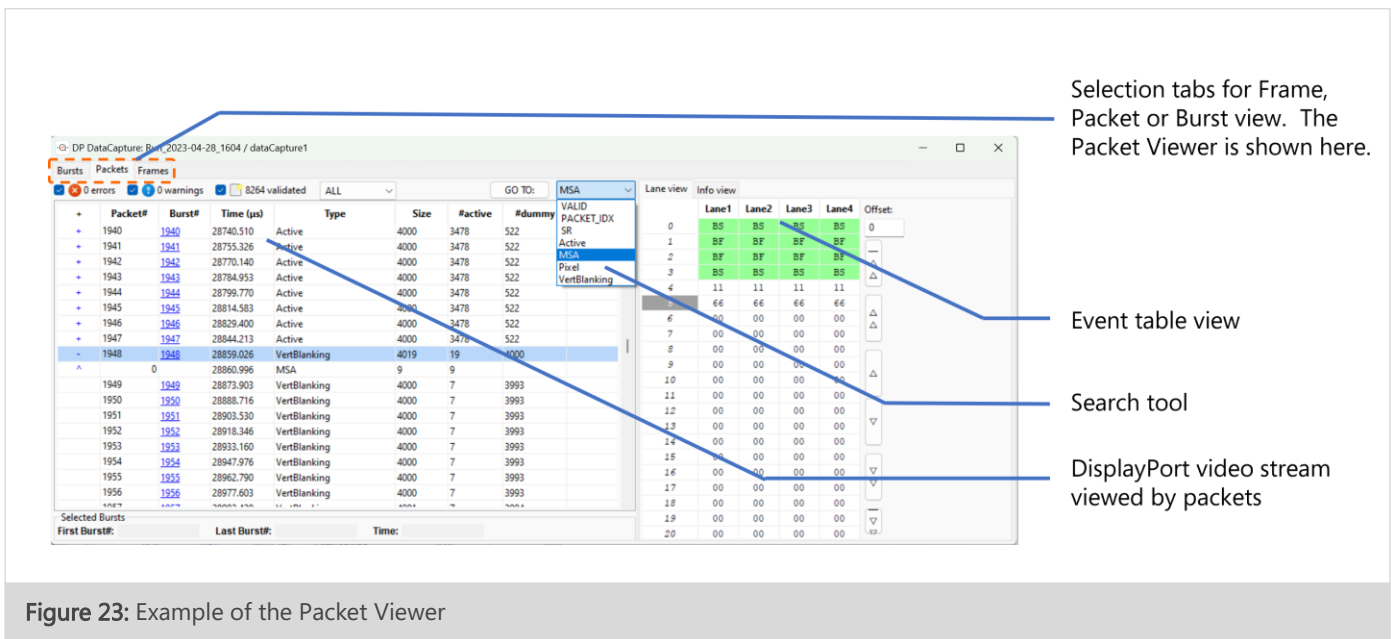

Figure 23: Example of the Packet Viewer
- f) Pressing on the “Packets” tab at the top of the viewer will present the **Packet Viewer**, and an example of this is shown in Figure 23 below. This represents the next highest level in the data capture viewer hierarchy. The left side of the figure shows the DisplayPort video stream construction at a packet level, while the right side of the figure shows an event table, where Line Data, Blanking Start and End, Line Footers, Dummy Data, and received symbols are tabulated for easy visual analysis. The search tool as shown allows for easy navigation through the Packet Viewer. Errors present in the received packets may be searched as well.